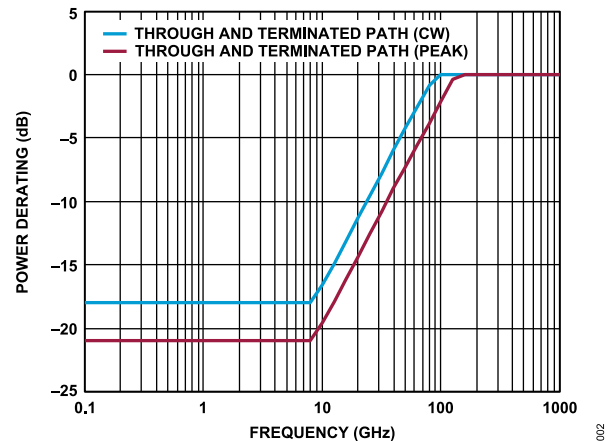

Figure 2. Power Derating vs. Frequency, Low Frequency Detail, $T_{CASE} = 85^{\circ}\text{C}$
² For power derating over frequency, see Figure 2.
- For power derating over frequency, see Figure 2.
The power handling of the ADRF5010 derates with frequency below 0.1 GHz. For derating of the RF power toward lower frequencies, see Figure 2.